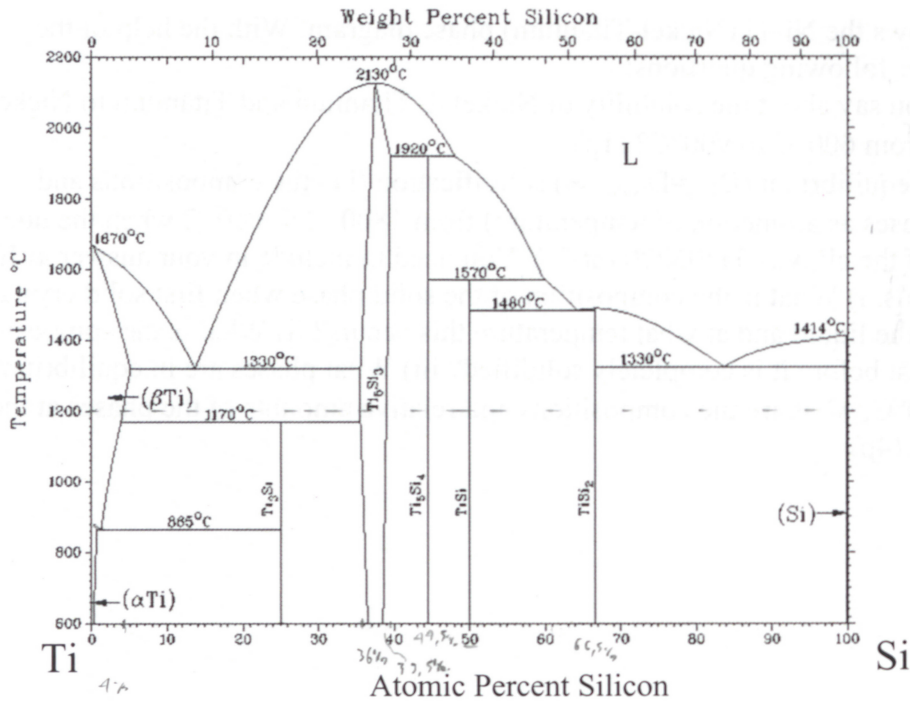

Figure 3 Ti-Si binary phase diagram [The phases in the Ti-Si system are: L(liquid), αTi, βTi, Si (diamond), Ti₃Si, Ti₅Si₃, Ti₅Si₄, TiSi and TiSi₂]
3. Thick titanium (Ti) plate is attached against thick silicon (Si) wafer (=semi-infinite diffusion couple) at the temperature of 1200°C. Based on the phase diagram (see Fig. 3) draw the structure of the diffusion couple and the composition profiles for both components, when sufficient amount of time has elapsed so that local equilibria is achieved in all interfaces. (NB. Mark clearly the compositions of the phases at all interfaces!) In addition, explain shortly what happens if the temperature is then decreased down to 800°C (5p)